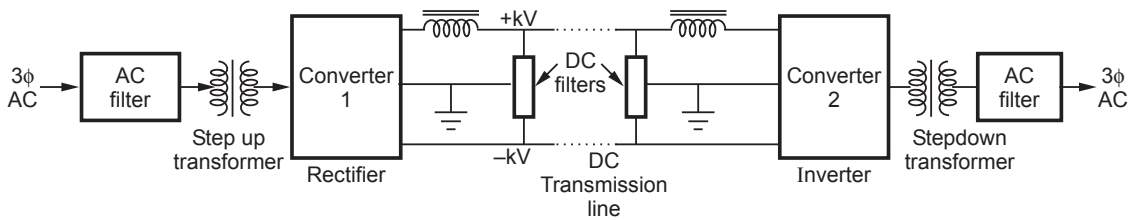

Fig. 11 Block diagram of HVDC transmission system
- Fig. 11 shows the block diagram of HVDC transmission system. The 3ϕ AC supply is first passed through AC filter to remove harmonics and then stepped up through step up transformer. This gives high AC voltage which is ready for transmission.